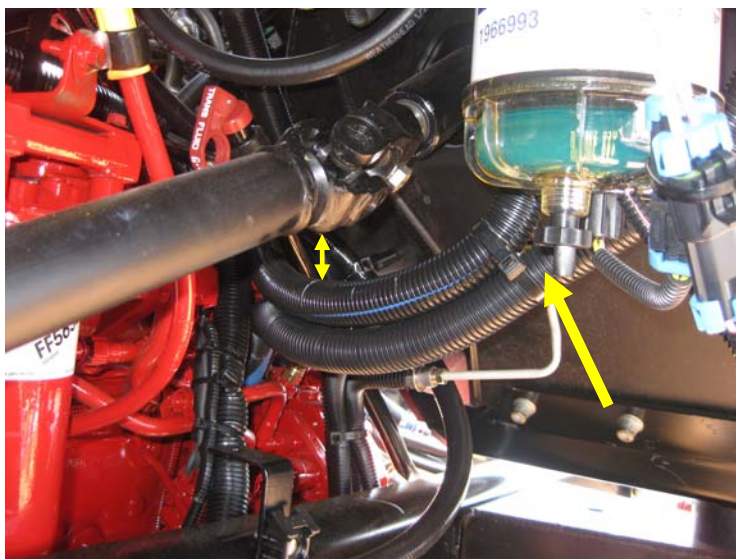

Fig. 5
7. Adjust fuel hose if necessary so that there is a minimum of .25 inches clearance to the steering shaft. Secure fuel hose in this area with tie straps (Fig. 5)